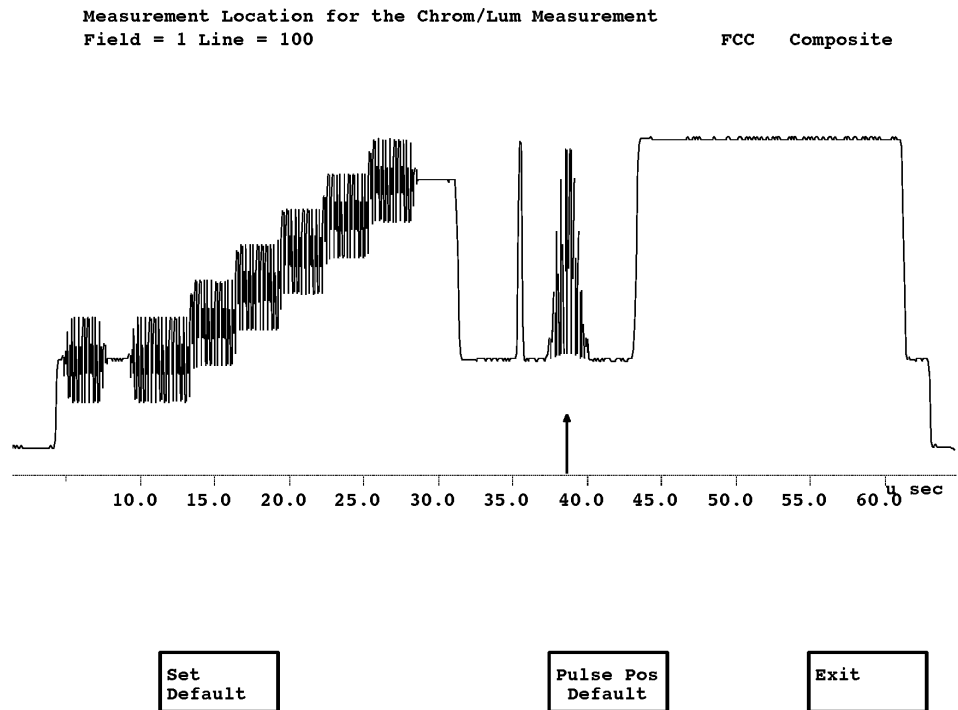

Figure 2–10: ChromLum GainDelay Special Position display
**Use (n) Reference** Use (1) Reference/Use (2) Reference selects the stored reference to which measured values are compared. If no reference value has been stored, touching either soft key displays a message that the reference is not defined.
**Special Position** Special Position displays the Special Position submenu and a special waveform display used to set the location on the waveform where the measurement is made. Figure 2–10 shows the ChromLum GainDelay Special Position display and submenu.